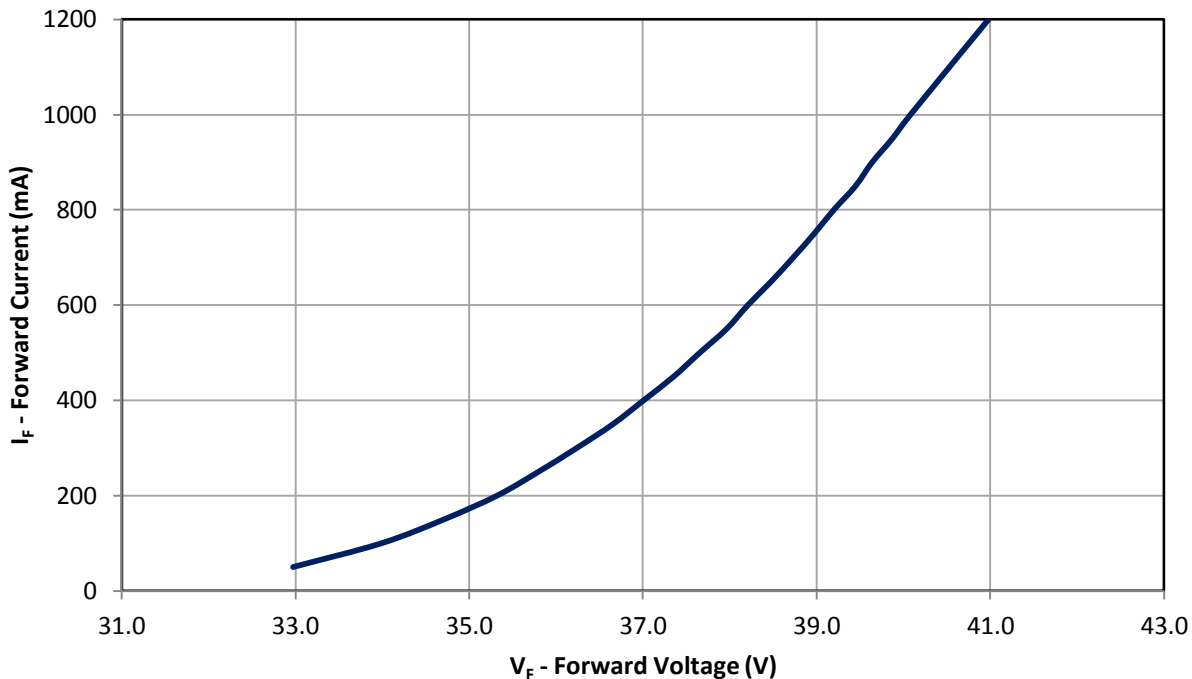

Figure 10: Typical forward current vs. forward voltage @ Tc = at 25°C.
- Maximum DC forward current (per die) is determined by the overall thermal resistance and ambient temperature. Follow the curves in Figure 10 for current derating.
Note for Figure 10: